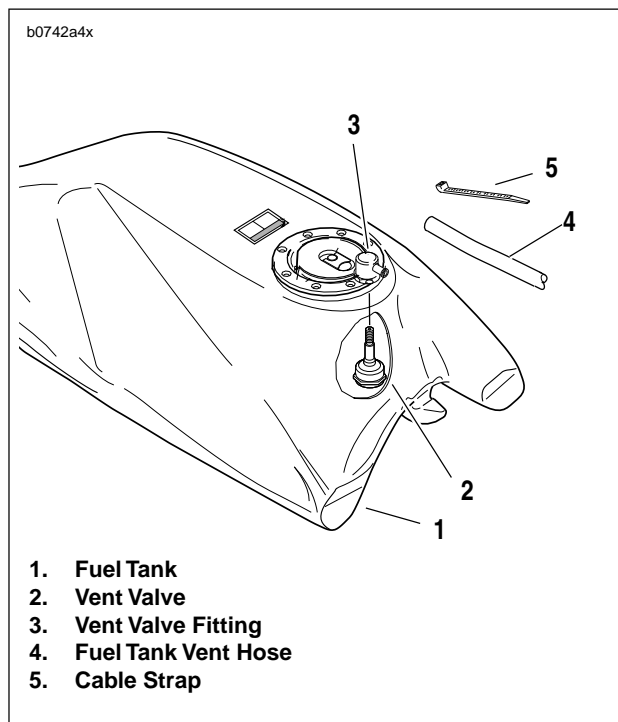

Figure 4-111. Vent Valve
7. See Figure 4-111. Connect the fuel tank vent hose (4) to vent valve fitting (3) using a **new** cable strap (5).